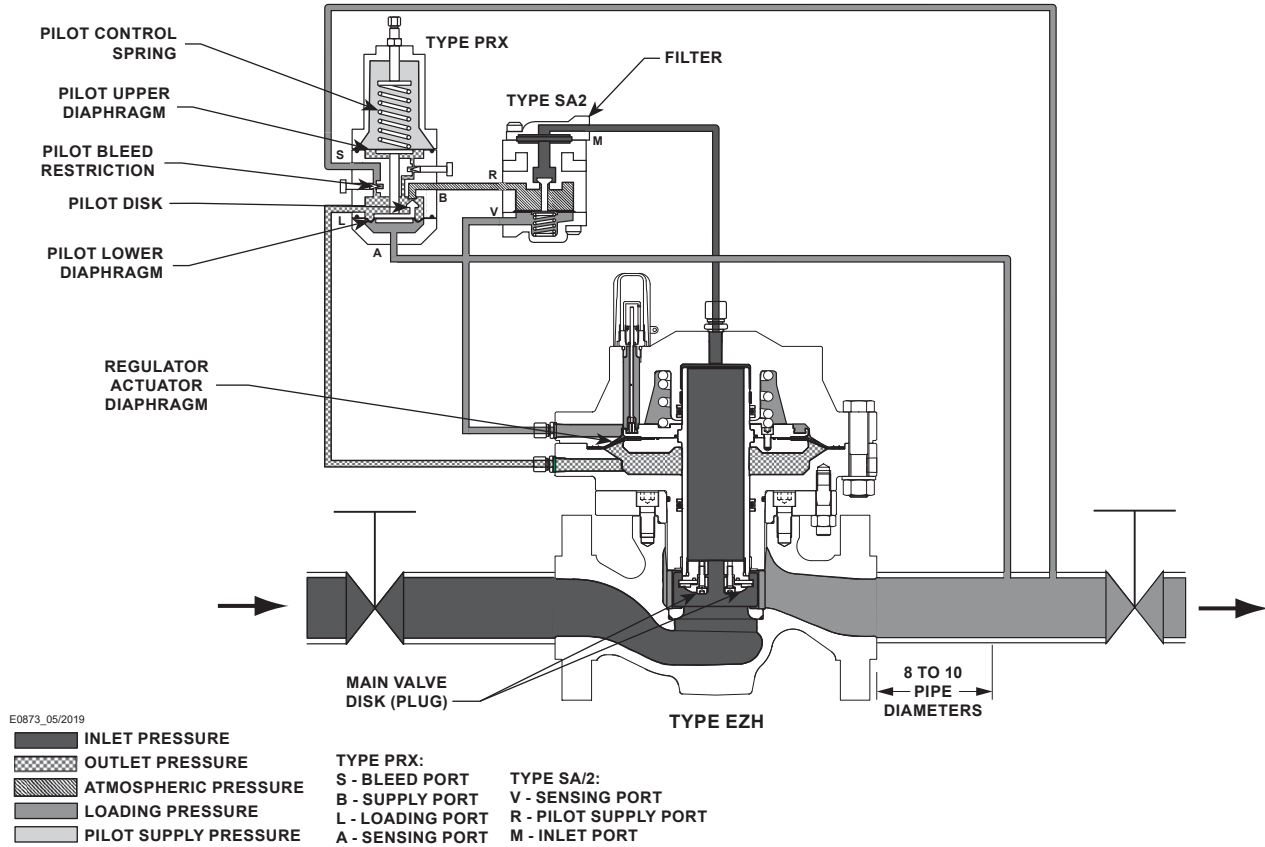

Figure 3. Type EZH (Spring-to-Close) Operational Schematic
The EZH Series (Figure 3) uses inlet pressure, which is reduced through pilot operation to load the regulator actuator diaphragm (lower chamber). Outlet pressure is supplied to the regulator actuator diaphragm (upper chamber). This pressure assists the main spring that tends to close the regulator, and opposes loading pressure in the actuator. Outlet pressure and also opposes the pilot control spring.
- The PRX Series Pilot connections are 1/4 NPT. For the NPS 1 to 4 / DN 25 to 100 EZH Series, connect a downstream control (sense) line from the “A” port on the bottom of the PRX Series pilot to a straight run of pipe 6 to 10 pipe diameters from the regulator outlet as shown in Figures 3 and 4, using 3/8 in. / 9.5 mm or larger outside diameter tubing. For the NPS 6 / DN 150 and larger sizes, connect the downstream control line from the port on the upper casing to a straight run of pipe 6 to 10 pipe diameters from the regulator outlet using 1/2 in. / 12.7 mm or larger piping. If such a distance is not practical, connect the control line away from elbows, swages, nipples or any area where abnormal flow velocities occur.
- The PRX Series pilot connections are 1/4 NPT. Connect a downstream bleed line from the “S” port on the PRX Series pilot with a straight run of pipe 6 to 10 pipe diameters to the regulator outlet as shown in Figures 3 and 4, using 3/8 in. / 9.5 mm or larger outside diameter tubing.
For a single regulator (Figure 3), set the pilot to the desired outlet (control) pressure according to the Pilot Adjustment procedure.